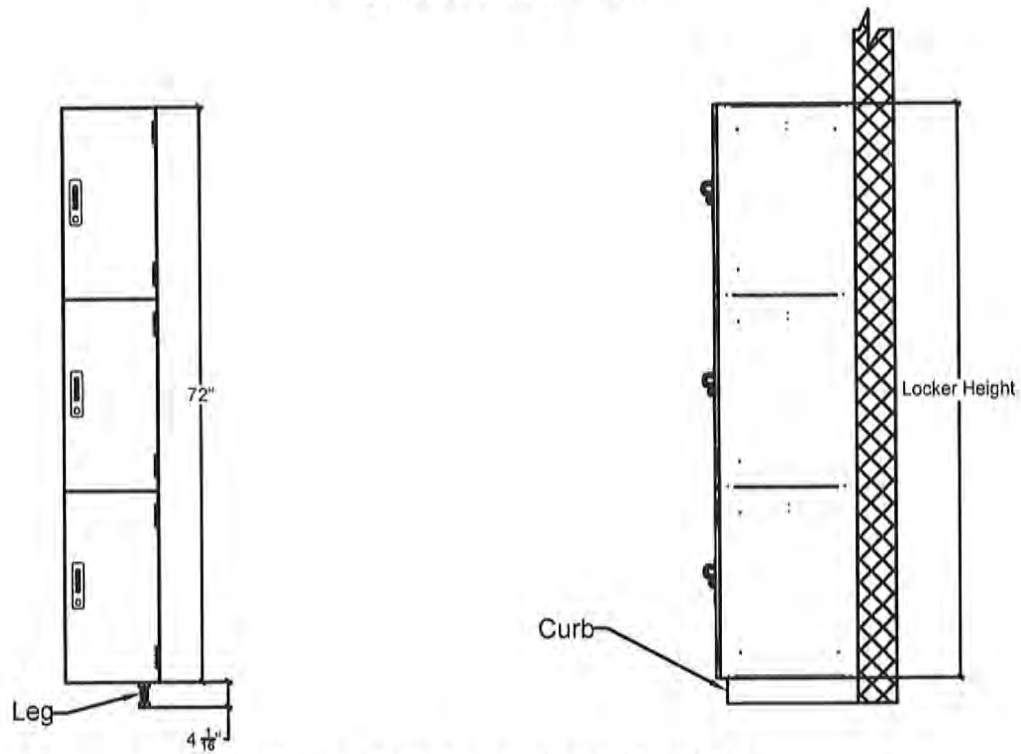

Figure 3.2 Front and Side View
- 3.3 Using the front view of the locker layout sheet, locate the height of the locker, see Figure 3.2. If you are installing the lockers on a concrete curb then mark this dimension at the highest point of the concrete curb. If you are installing the lockers on adjustable legs then add  $4 \frac{1}{16}$  inches to the dimension and mark on wall.